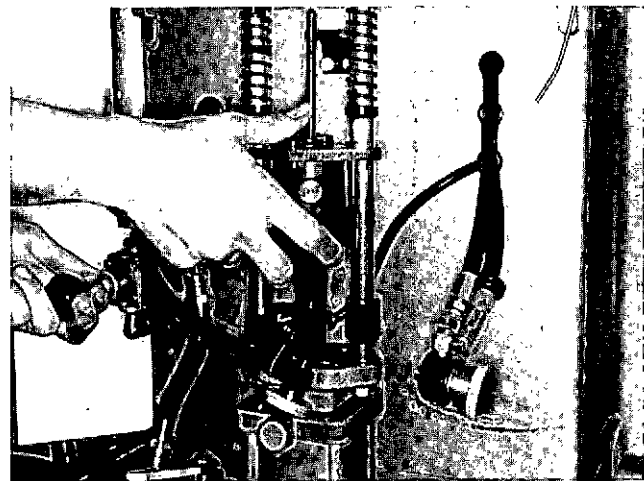

Fig. 4-49, (F60135). Position the assembly in the test stand
11. Open the air valve and as the injector goes in the clamped position, make sure the link is properly aligned and engaged, Fig. 4-49.